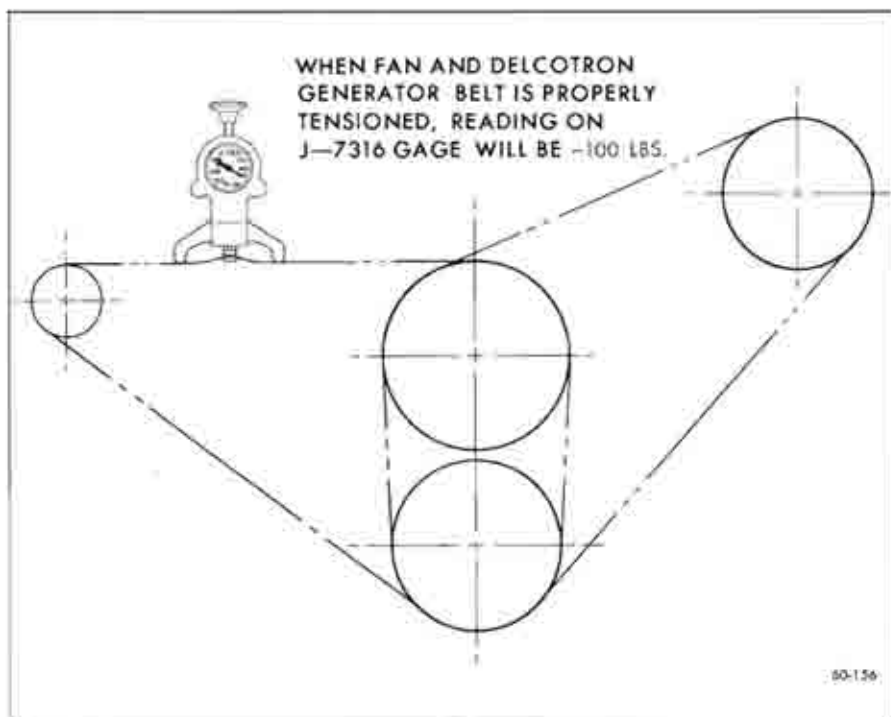

Figure 60-156—Engine Belt Tension Chart - Non-Air Conditioned Cars
securely tightened, the fan belt tension should be checked as shown in Figures 60-156 and 60-157.
If the power steering oil pump belt is removed it should be adjusted to tension specified, in Figures 60-156 and 60-157.
If the air conditioner compressor belt is disturbed it should be adjusted as specified, in Figures 60-156 and 60-157.
3. Install fan pulley or pulleys and fan blade, tighten attaching bolts securely. Install belts and adjust for proper tension. See Figures 60-156 and 157.